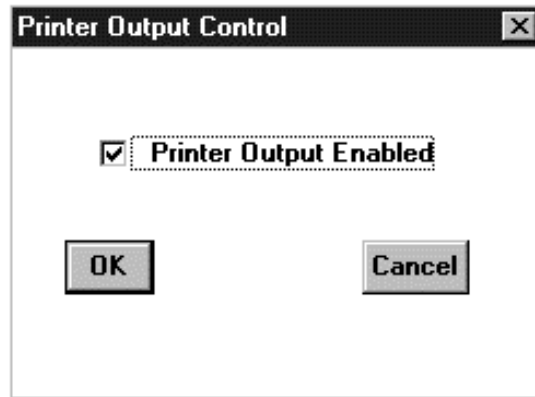

Figure 5.6.2.9
a) After selecting the **Printer Output Control** per section 5.6.2.1, the following *Printer Output Control* window (Figure 5.6.2.9) will appear: